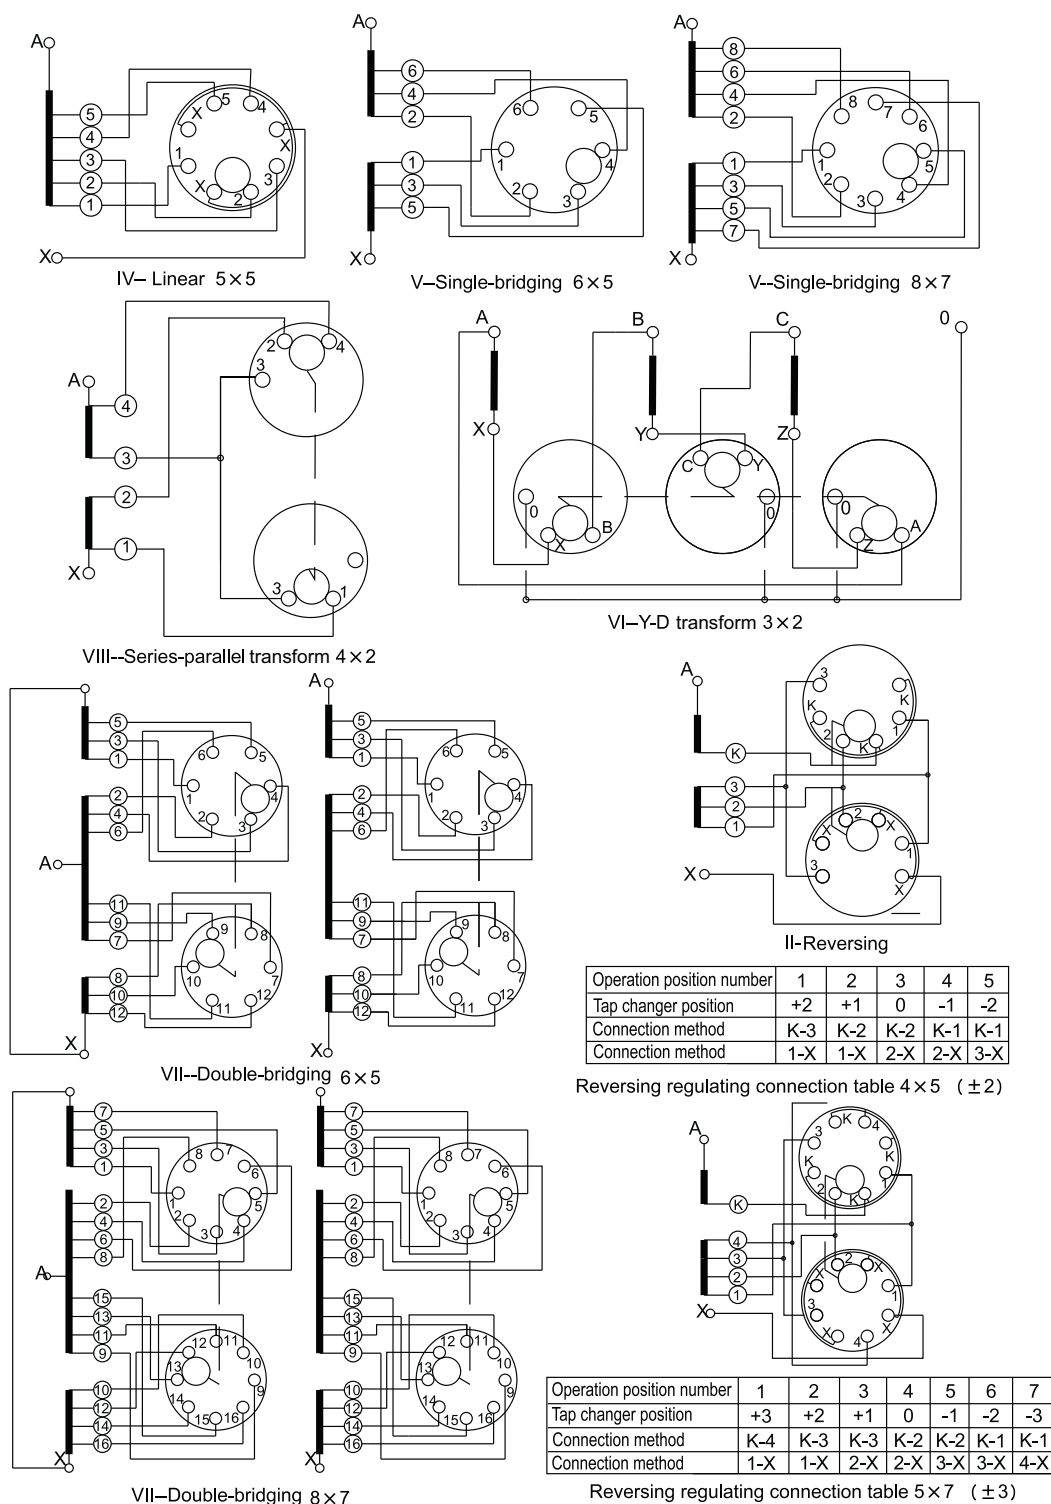

Fig. 7 Tap changer connection diagram
1.3 Tap changer connection diagram (See Fig.7)